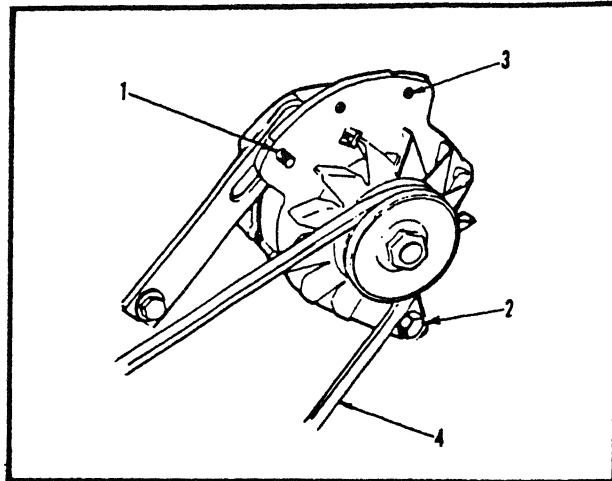

Figure 4-12. Alternator V-Belt, Removal/Installation.
a. Removal (figure 4-12)
- (1) Remove V-belt guard (paragraph 4-17).
- (2) Loosen bolts (1) and (2).
- (3) Push alternator (3) towards engine and remove V-belt (4).
b. Installation (figure 4-12)
- (1) Position alternator V-belt (4) on alternator and crankshaft pulley.
- (2) Move alternator away from engine and tighten bolts (1) and (2).
- (1) Measure belt deflection as shown in figure 4-12.
- (2) Loosen bolts (1) and (2), figure 4-12, and reposition alternator to obtain desired belt deflection.
- (3) Install V-belt guard (paragraph 4-17).